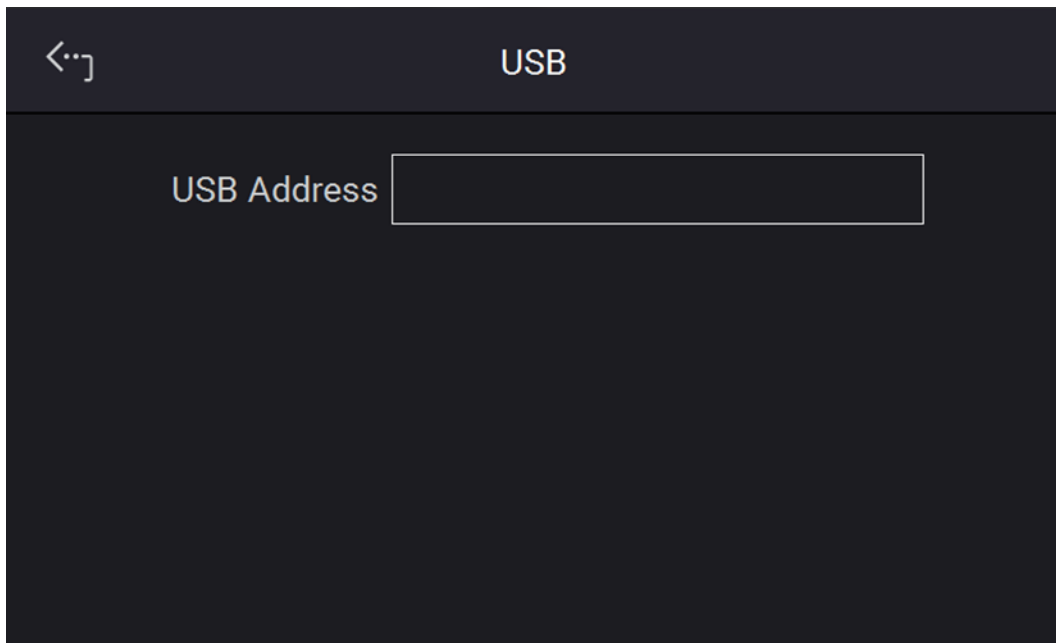

Figure 3-48
1. In “Interface” page, select USB to enter into the USB Address screen as Figure 3-48 shows.